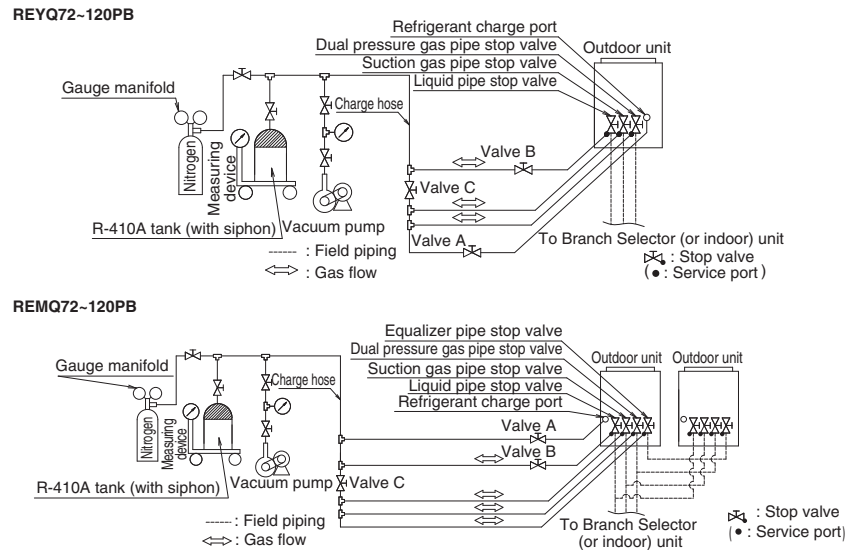

figure 9
- Referring to figure 9, connect an nitrogen tank, refrigerant tank, and a vacuum pump to the outdoor unit.
The refrigerant tank and the charge hose connection to refrigerant charge port or the valve A in figure 9 are needed in “10.2.6 Additional Refrigerant Charge and Check Operation”.